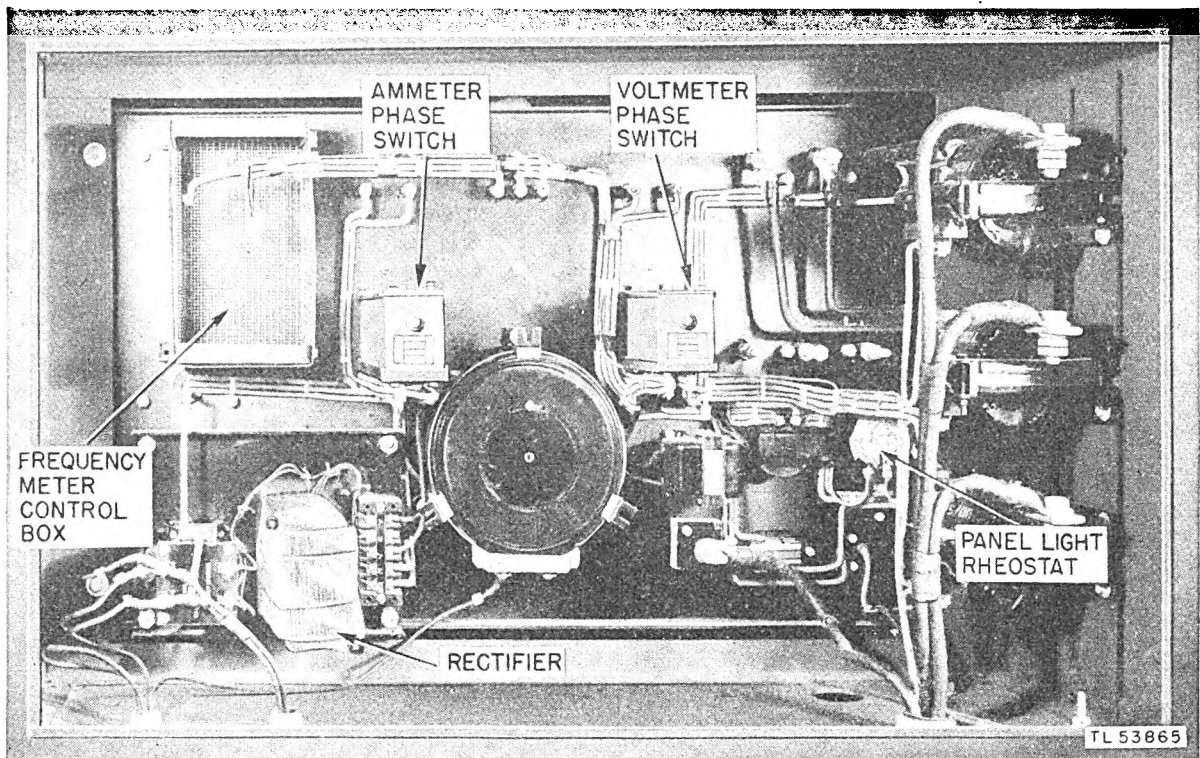

Fig. 16.9. Rear View of Control Panel. Masked and Ready for Spraying.
d. Masking (fig. 16.9).
(1) Mask with tape, all lugs on unfastened leads.
(2) Mask with tape, rheostat which controls panel light.
(3) Mask the rectifier with paper and tape.